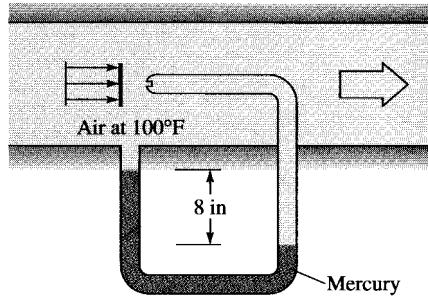

Fig. P9.25
**9.25** If it is known that the air velocity in the duct is 750 ft/s, use that mercury manometer measurement in Fig. P9.25 to estimate the static pressure in the duct, in psia.
**9.35** Helium, at  $T_o = 400 \text{ K}$ , enters a nozzle isentropically. At section 1, where  $A_1 = 0.1 \text{ m}^2$ , a pitot-static arrangement (see Fig. P9.25) measures stagnation pressure of 150 kPa and static pressure of 123 kPa. Estimate (a)  $\text{Ma}_1$ ; (b) mass flow; (c)  $T_1$ ; and (d)  $A^*$ .